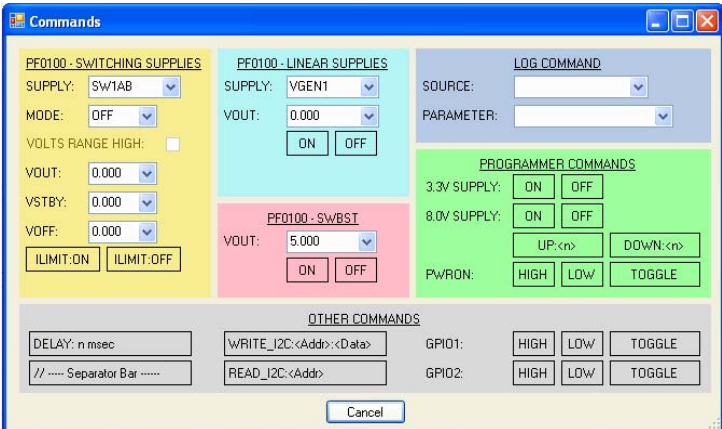

Figure 31. Command Selector Window
- **Commands:** Display a pop-up window shown in Figure 31, with a graphical set of commands to add to the script.
Proceed by manually writing the desired commands or use the “Command” button to display a graphical command selector in a new window as shown in Figure 31.